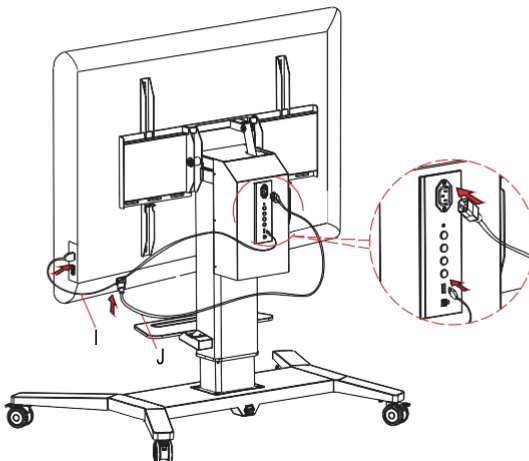

figure 9
Step9: Plugging the AC Power transferable Cable and the USB transferable Cable in, user can interact with the Interactive Flat Panel (figure 9).